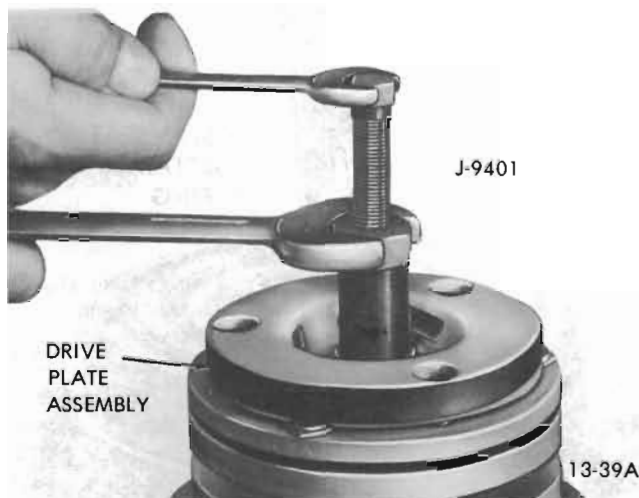

Figure 13-16 Removing Clutch Drive Plate
3. Install threaded hub puller (J-9401) onto hub of clutch drive plate (see Figure 13-16). Hold body of hub puller with wrench, tighten center screw of hub puller, and lift off clutch drive plate and woodruff key.